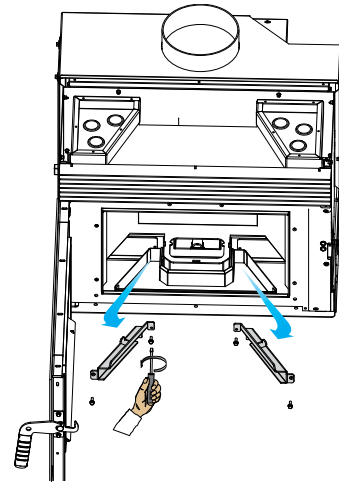

fig. 7.17
- D) Remove the side, flame-resistant grips of the interior plates (fig. 7.17)